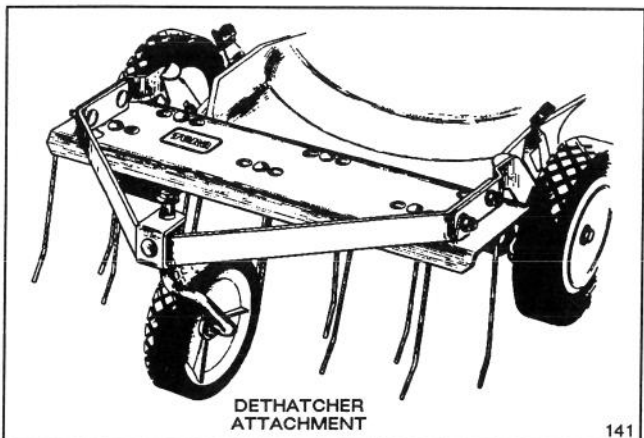

Figure 34
2. Dethatcher Kit, Model No. 59131—Installs in minutes. Front mounted for easy maneuverability. Spring tines loosen thatch for clean vacuuming into grass bag (Fig. 34) and convenient disposal.